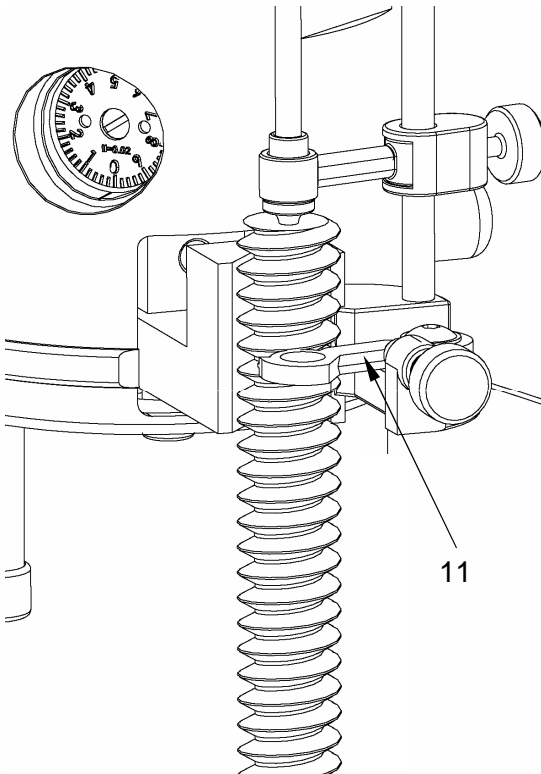
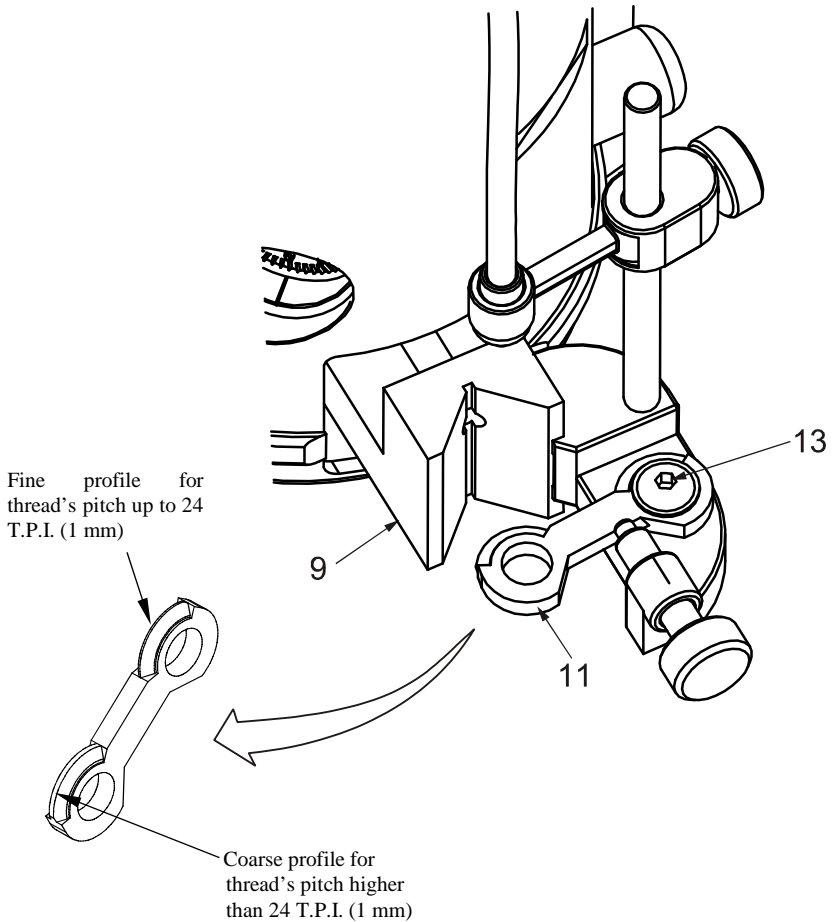

Figure 5. Blade Engaged in Electrode's Groove
Figure 6. Blade Adjustment to fit Thread Pitch
Blade (11) is designed to hold the electrode in place when engaged in one of the electrode grooves (see Figure 5). The advantage of holding the electrode in this manner is that, it can be replaced with a new one and still know for certain that there will be no cross threading. The new threading may be deeper or shallower than the original one. Yet, as long as blade (11) penetrates an electrode's groove, there will be no cross threading. Blade (11) is provided with two profiles to ensure suitable engagement in electrode's groove (see Figure 6).
- A. Release screw (13), release blade (11) and reverse it, making sure that the appropriate profile, faces the electrode holder (9). See Figure 6.